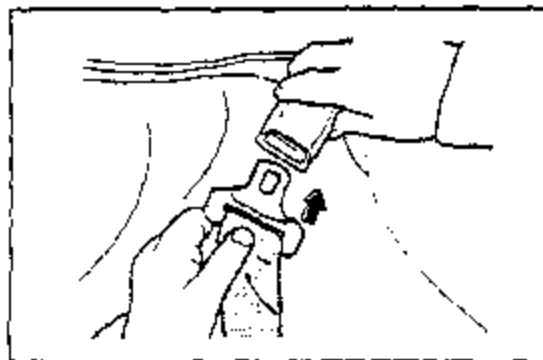

Fig. 5
- e. Test the operation of the seat belt warning buzzer by turning the ignition switch to the ON position and verifying that the seat belt warning buzzer is activated for 4 to 8 seconds. Insert the metal tongue plate into the seat belt buckle assembly and again turn the ignition switch to the ON position. Verify that the seat belt warning buzzer is not activated when the buckle is connected. (See Fig. 5)